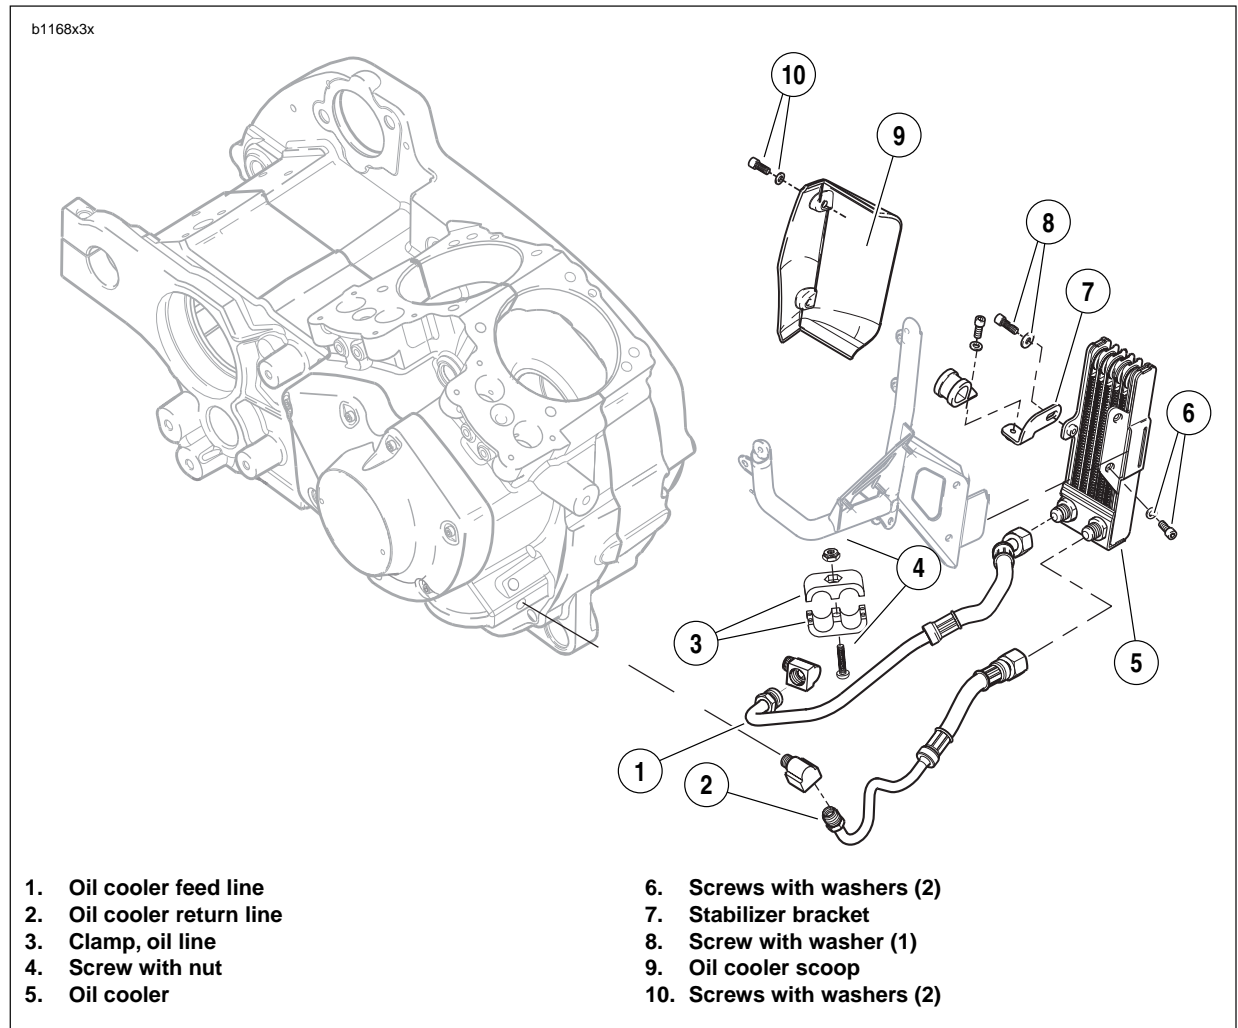
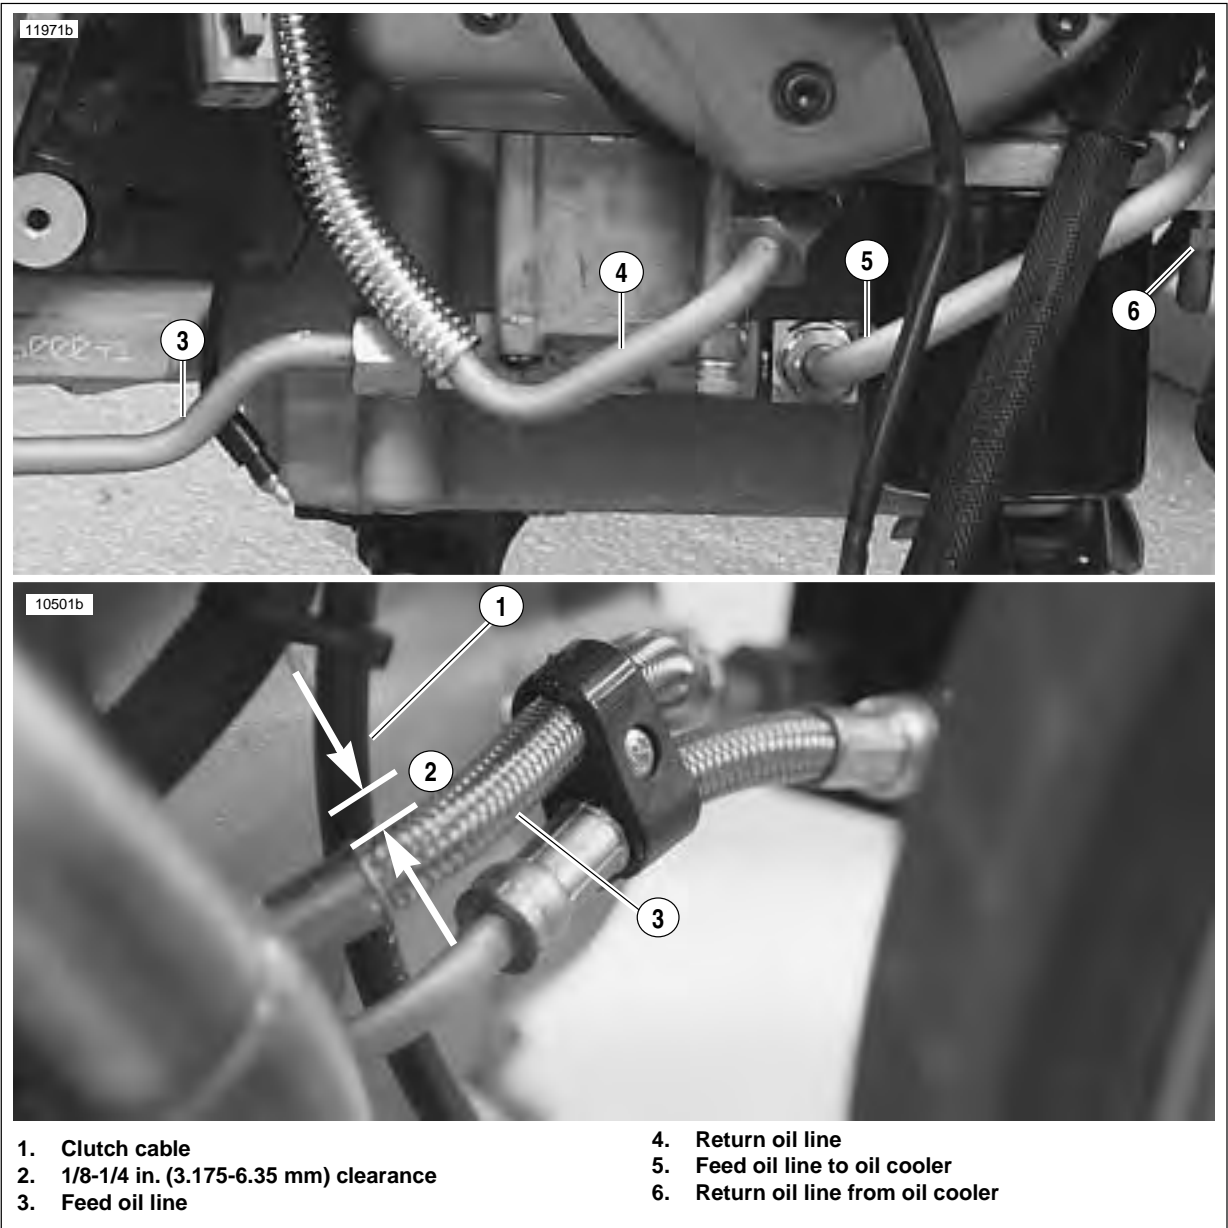

Figure 3-110. Oil Cooler
Figure 3-111. Oil Cooler Feed Oil Line Orientation (Approximately 2 O'Clock) and Oil Line Clearances
3. See Figure 3-110. Remove clamp (3) from oil cooler oil lines.
4. Loosen oil cooler return line (2) at oil cooler. Do not disconnect.
5. Loosen oil cooler feed line (1) at oil cooler. Do not disconnect.
6. Remove two fasteners (10) securing the oil cooler scoop (9) and remove scoop.
1. See Figure 3-110. Lightly coat the threads of the oil cooler fittings with clean H-D 20W50 engine oil. Wipe off any excess oil.
3. After the oil cooler is in place, apply LOCTITE 271 to the two fasteners (6) and tighten to 96-108 **in-lbs** (10.8-12.2 Nm).
4. Install the stabilizer bracket fastener (8) and tighten to 66-78 **in-lbs** (7.5-8.8 Nm).
5. Install oil cooler scoop and apply Loctite 271 (red) to the two fasteners (10) and tighten to 48-72 **in-lbs** (5.4-8 Nm).
8. See Figure 3-111. Verify that the clutch cable and feed line have a clearance of 1/8-1/4 in. (3.175-6.35 mm) between them.